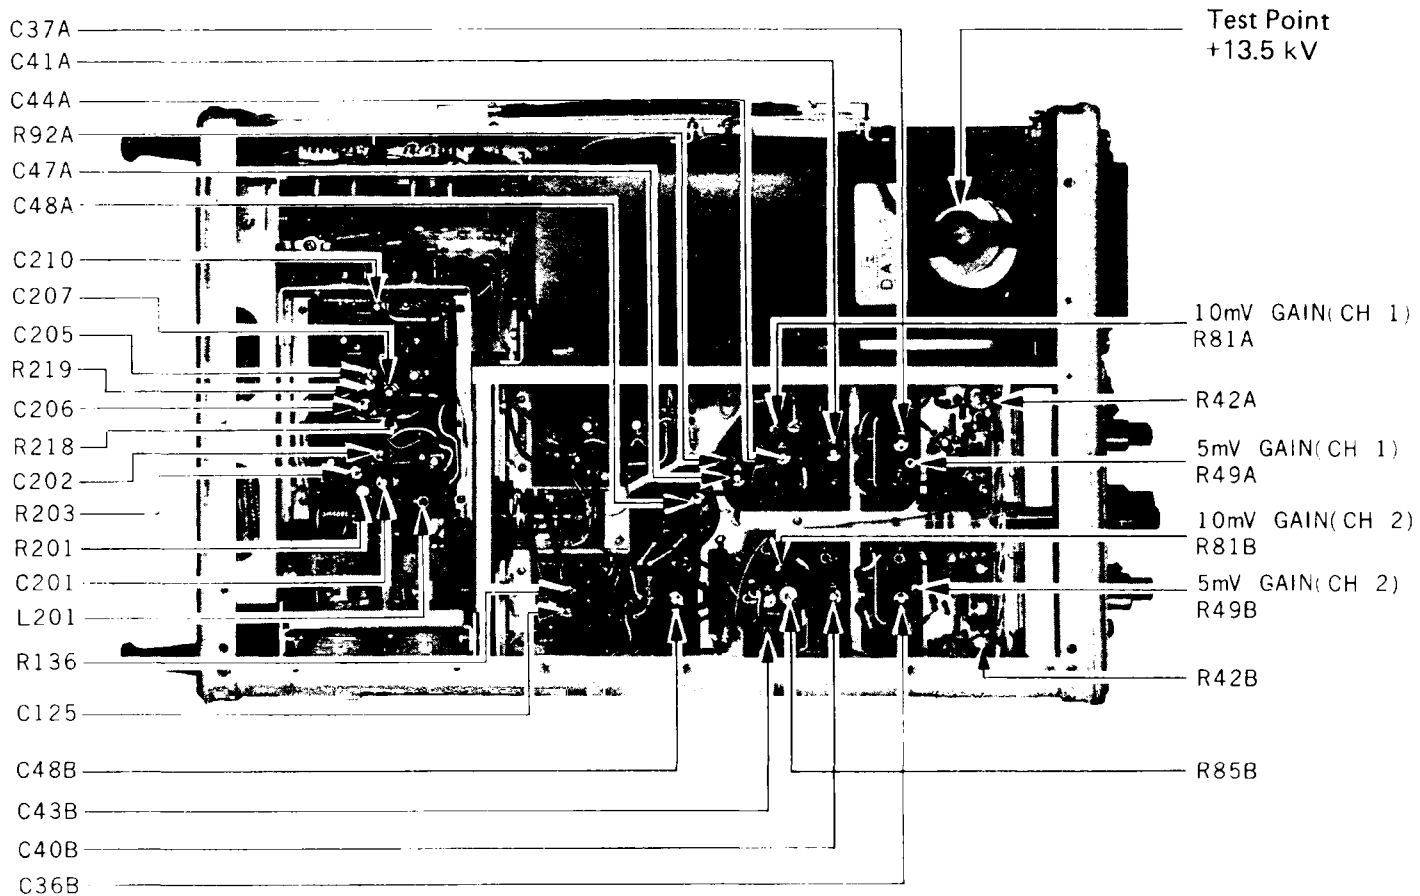

Figure 4-8 Left Side View
(1) Step Attenuator Balance Adjustment. Set MODE to CH 1 position and set front-panel STEP ATTEN BAL adjustment to center of adjustment range. Adjust R42A (see Figure 4-8) so that no trace shift is observed when switching the Channel 1 VOLTS/CM switch from the 5 mV position to the 10 mV position. Repeat the procedure for Channel 2. The adjustment is R42B.
(2) Deflection Sensitivity Adjustment. Connect the output of an amplitude calibrator to the Channel 1 input. Set the calibrator output for 10 mV p-p. Adjust 5 mV Gain R49A for a display exactly 2 cm high, with the VOLTS/CM switch in the 5 mV position. Set the VOLTS/CM switch to the 10 mV position, and set the output of the calibrator for 20 mV. Adjust 10 mV Gain R81A for a display exactly 2 cm high. Repeat the procedure for Channel 2 (the 5 mV adjustment is R49B; the 10 mV adjustment is R81B). Check